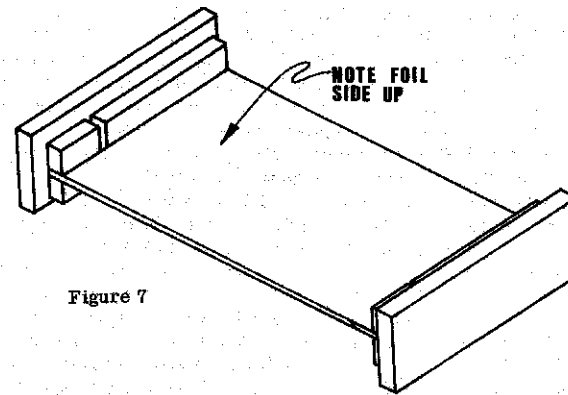

Figure 7
- () Mount the circuit board in the wood ends as illustrated in figure 7.
Cut a 10-3/4-inch (27.2 cm) length of the rubber extrusion supplied and mount on the case top as illustrated in figure 7.